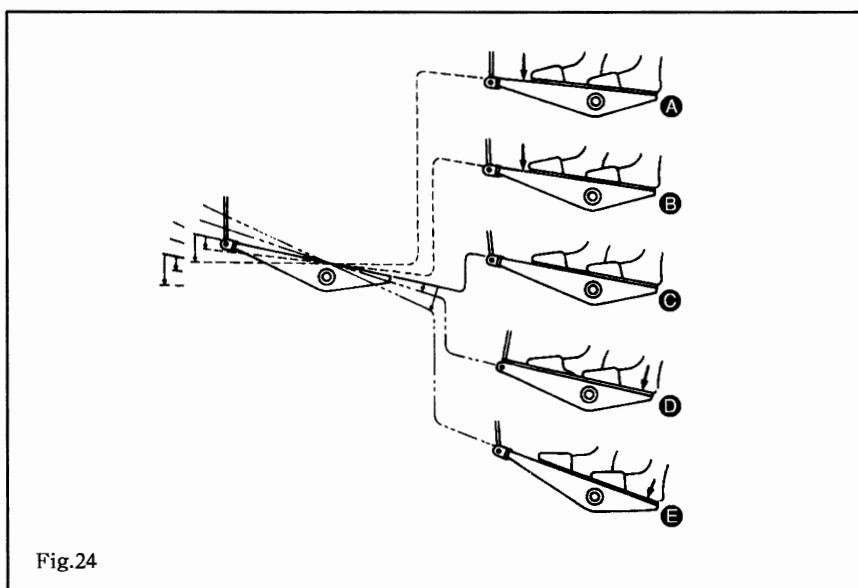

Fig.24
- 1) The machine runs at low sewing speed when you lightly depress the front part of the pedal. (B shown in Fig.24)
- 2) The machine runs at high sewing speed when you further depress the front part of the pedal. (If the automatic reverse feed stitching has been preset, the machine runs at high speed after it completes reverse feed stitching.) (A shown in Fig.24)
- 3) The machine stops (with its needle up or down) when you reset the pedal to its original position. (C shown in Fig.24)
- 4) The machine trims threads when you fully depress the back part of the pedal. (E shown in Fig.24)
The presser foot goes up when you lightly depress the back part of the pedal (D shown in Fig.24), and if you further depress the back part, the thread trimmer is actuated.